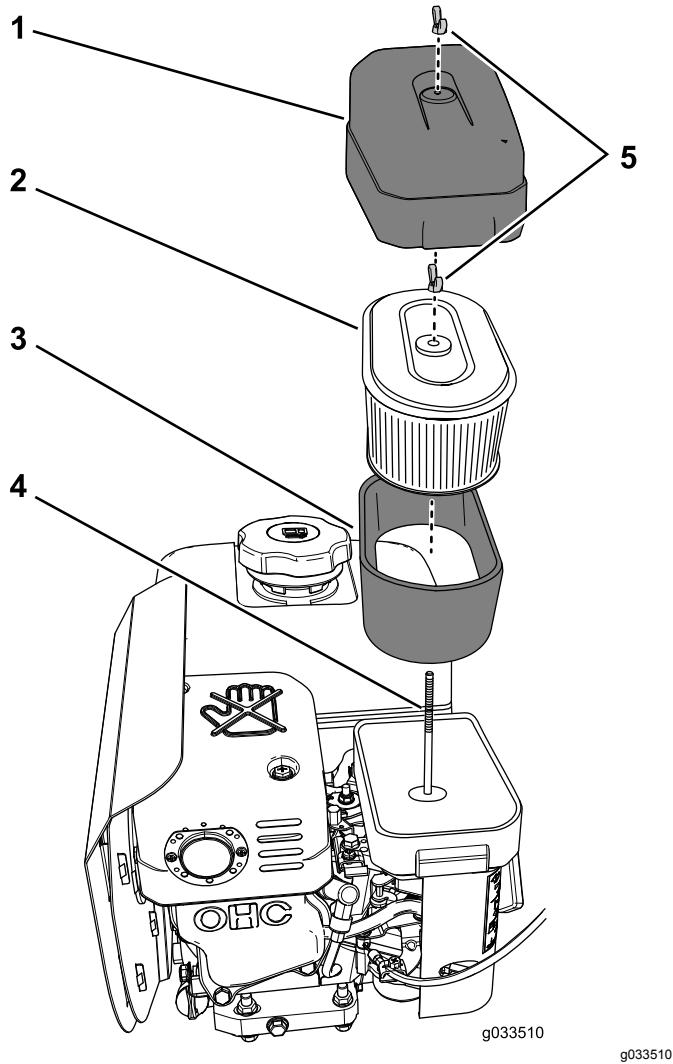

Figure 11
2. Clean around the air cleaner to prevent dirt from getting into the engine and causing damage (Figure 11).
3. Rotate the wing nut that secures the air-cleaner cover counterclockwise and remove the air-cleaner cover (Figure 11).
4. Rotate the wing nut that secures the paper and foam-filter elements counterclockwise and remove the filter elements from the hold-down rod (Figure 11).
5. Carefully pull the foam element off the paper element (Figure 11).
1. Inspect the element for tears, an oily film, or damaged (Figure 11).
1. Carefully slide the foam-filter element onto the paper-filter element (Figure 11).
2. Align the hole in the top plate of the paper-filter element with the hold-down rod of the carburetor (Figure 11).
3. Secure the filter elements to the carburetor with the wing nut (Figure 11) that you removed in step 4 of Removing the Foam and Paper Elements \(page 11\).
4. Align the hole in the air-cleaner cover with the hold-down rod (Figure 11) and secure the cover to the rod with the wing nut that you removed in step 3 of Removing the Foam and Paper Elements \(page 11\).